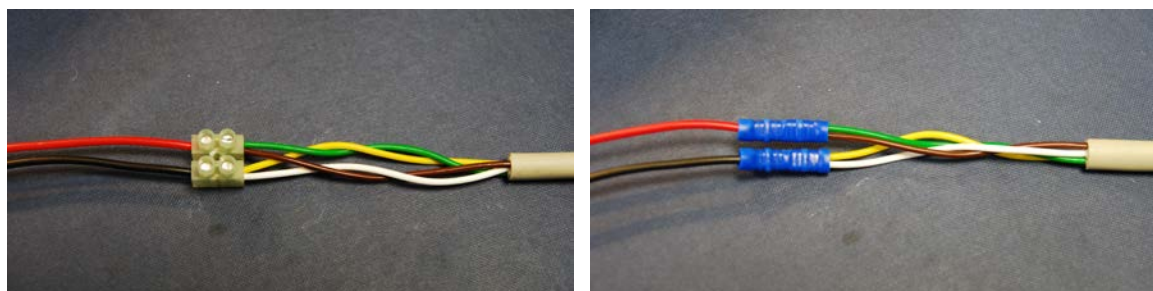

Figure 3. Cable to PSU wiring, terminal block (left), crimps (right)
The connection between the 4 wires of the drop cable and the 2 wires of the power supply are made as shown in Figure 3. Two examples are shown, using a terminal block and using crimps. Cambium Networks do not supply this connector, the installer should use any similar suitable means that fits the site installation practice.
2. When using a screw-terminal connector such as that shown on the left of Figure 3, make sure that the wire strands are protected from the terminal screw. Use a terminal block with wire protectors such as leaf springs, or a “rising cage” type, or fit crimp sleeves to the conductor strands.